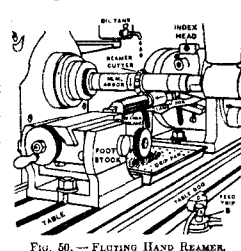

FIG. 50. — FLUTING HAND REAMER.
75. To flute hand reamer, Fig. 50.